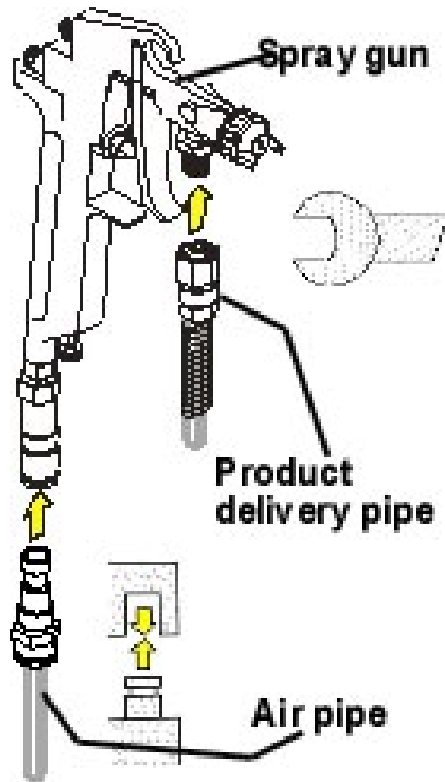

Fig.26
3) Mount the spray gun making sure that it is clean (fig. 26).